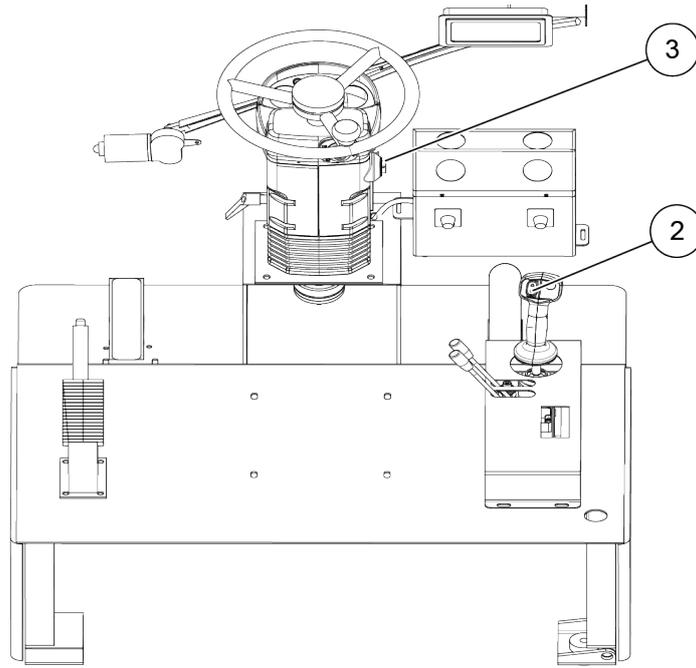

Figure 5-25 O peration platform
(1) Power switch
Step 3: Insert the key into the starting switch (3), the starting switch is in "OFF" state(4), as shown in Figure 5-25 and 5-26;
Step 4: Check and make sure that the travel control switch (2) is in the middle position, as shown in Figure 5-25;
Step 5: Turn the starting switch (3) to "PREHEAT" state(7) to preheat the engine. The preheat time shall not exceed 50 seconds. After preheating, release the starting switch, and the starting switch will automatically reset to "OFF" state;
Step 6: Turn the key to "ON" state (5) and hold. At this time, the whole loader circuit is connected;
Step 6: Continue to turn the key to "START" state (6), the starter drives the engine to run; After the engine starts, release the key, and the key will automatically return to "ON" state(5). Notice: Do not start the engine continuously for more than 10 seconds each time, and the interval between two starts should be at least 2 minutes.